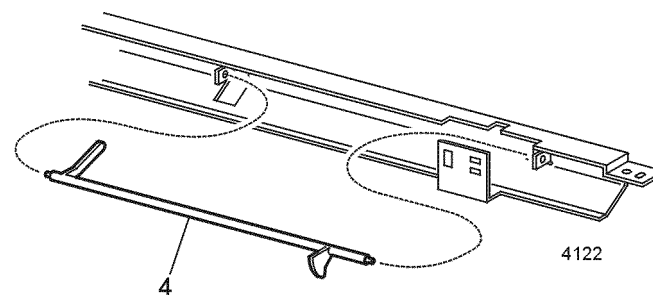

Figure 1 Stack Full Sensor Actuator
4. Move the actuator to the left. Carefully flex the center of the actuator until the right end is free of the assembly (Figure 1).